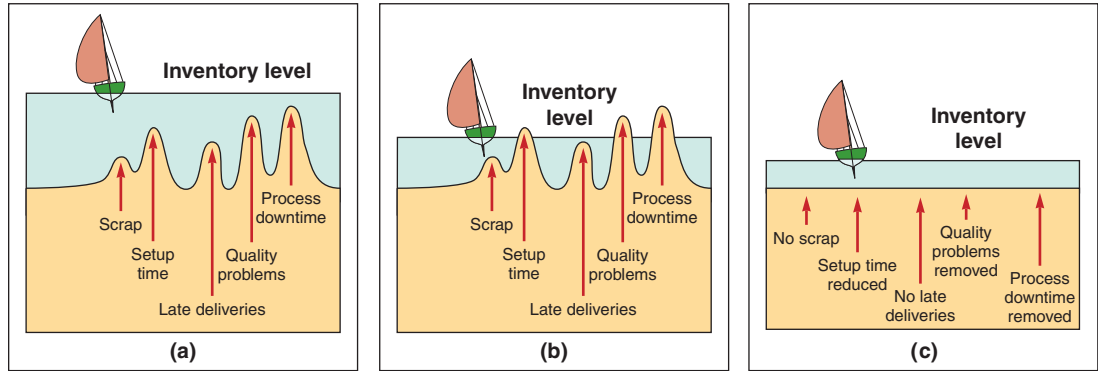

Figure 16.3
**Reduce Inventory and Variability** Operations managers move toward Lean by first reducing inventory. The idea is to eliminate variability in the production system hidden by inventory. Reducing inventory uncovers the “rocks” in Figure 16.3(a) that represent the variability and problems currently being tolerated. With reduced inventory, management chips away at the exposed problems. After the lake is lowered, managers make additional cuts
in inventory and continue to chip away at the next level of exposed problems [see Figure 16.3(b, c)]. Ultimately, there will be little inventory and few problems (variability).